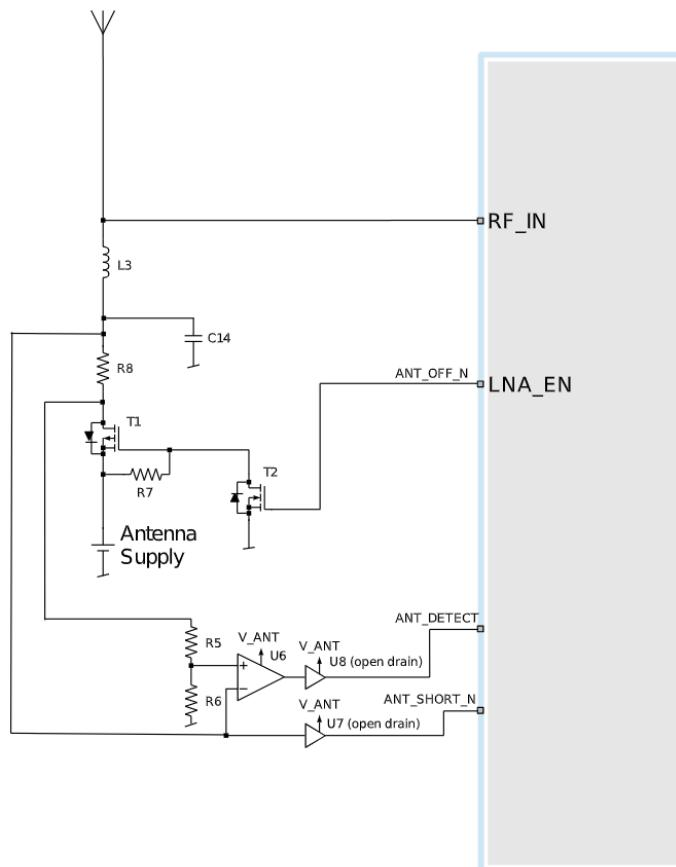

Figure 10: MAX-M10S three-pin antenna supervisor
Figure 10 presents the required three-pin antenna supervisor circuit and subsequent sections describe how to enable and monitor each feature.
Table 16 presents a list of the external components required for implementing the three-pin antenna supervisor design in **Figure 10**. Refer to External components for the recommended parts and specification.
- The open drain buffers shown in Figure 10 are not needed if V_{ANT} is the same voltage level as V_{IO} .